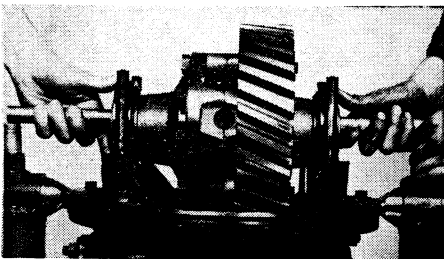

Fig. 55 Lifting out differential and gear assembly
4. Lift out differential and gear assembly, Fig. 55. On the herringbone gear type, remove the leg cap stud nuts, leg caps, bearing retaining ring and differential assembly.